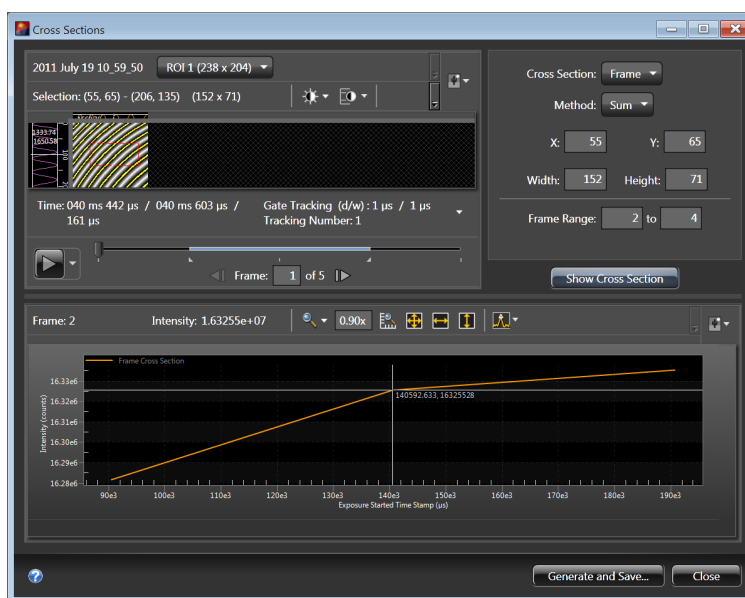

Figure 272. Frame Cross Section
9. You can change the horizontal axis calibration of a frame cross section. If the data were acquired while one or more Time Stamping functions were selected in the **Common Acquisition Settings** expander, you can change the horizontal calibration of the points used to create the cross section. Left mouse-click on the horizontal axis label to pop up the Horizontal Axis Calibration pane: this pane only lists the functions that were active when the data were acquired. You can then select a different calibration, change the units, or disable Horizontal Axis Calibration. Figure 272 shows a frame cross section calibrated in Frame Tracking Numbers in the horizontal axis. The data cursor shows that the sum of intensities for Frame 3 is 16325528 counts.